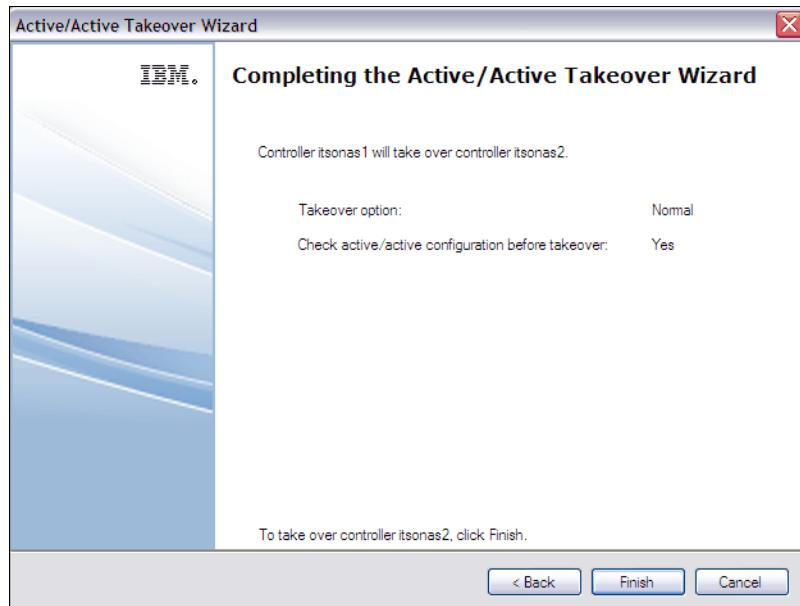

Figure 7-9 System Manager initiating takeover step 3
4. Figure 7-9 shows the Active/Active takeover wizard step 3. Click **Finish** to continue.